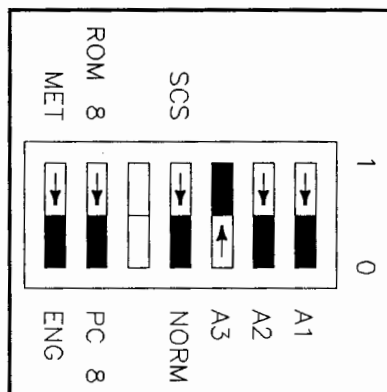

Figure 2-11.
- a. Find the bank of switches to the left of the HP-IB connector on the rear panel of the printer. The three right-most switches (labeled A1 through A3) in Figure 2-11) determine the address.
- b. Set the address to 4 as shown in Figure 2-11, unless address 4 has been used elsewhere. Refer to the manual that came with the printer if you need additional switch settings.